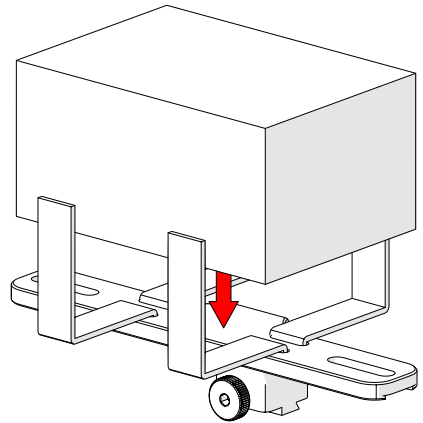

Fig. 161 - Place preamp and wrap velcro
2. Centre and place the preamp on the bracket wrapping the velcro around the preamp (Fig. 161).